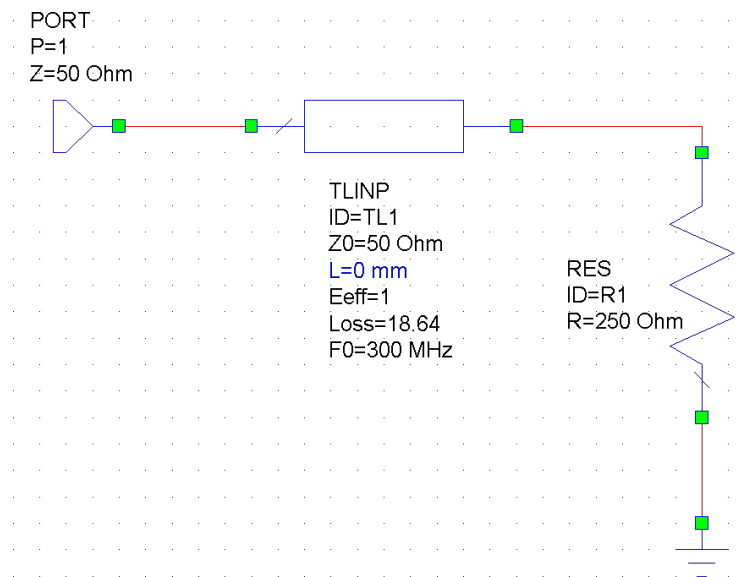

Figure 6.8: Chart 4 : Lossy Line Schematic with TLINP line length parameter selected using the Tune Tool
- Click the length parameter of the line TLINP element. It should turn blue. See figure 6.8